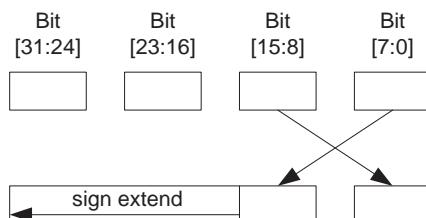

Figure 5.11
- REVSH (Byte Reverse Signed Half Word, Figure 5.11).